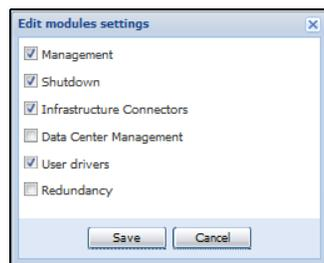
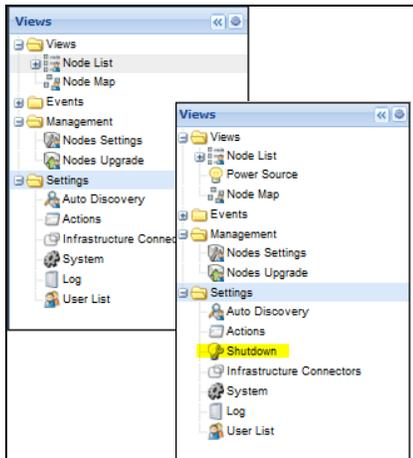

Figure 9. Edit Modules Settings Dialog
Figure 10. Shutdown Displays in the Settings Menu Hierarchy
2. Select the Shutdown checkbox on the Edit modules settings dialog (see Figure 9). The Shutdown menu selection displays in the Settings menu hierarchy list (see Figure 10).